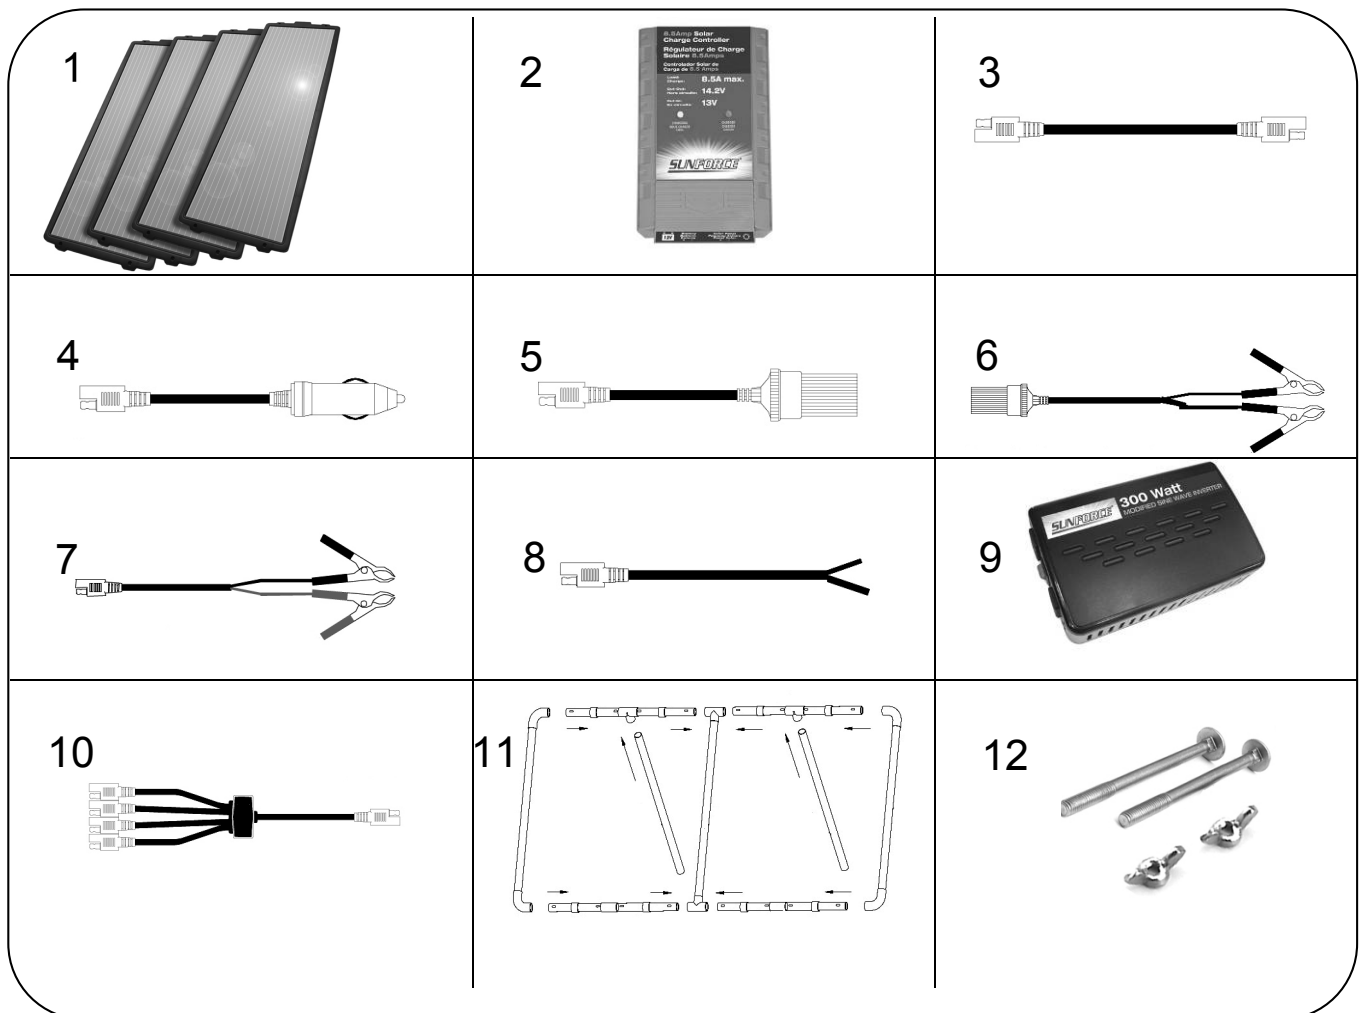

FIGURE 1
- **12 Volt DC Plug Connector (FIGURE 1, #4)**
- **12 Volt DC Socket Connector (FIGURE 1, #5)**
- **Power Inverter Connector (FIGURE 1, #6)**
- **Battery Clamps Connector (FIGURE 1, #7)**